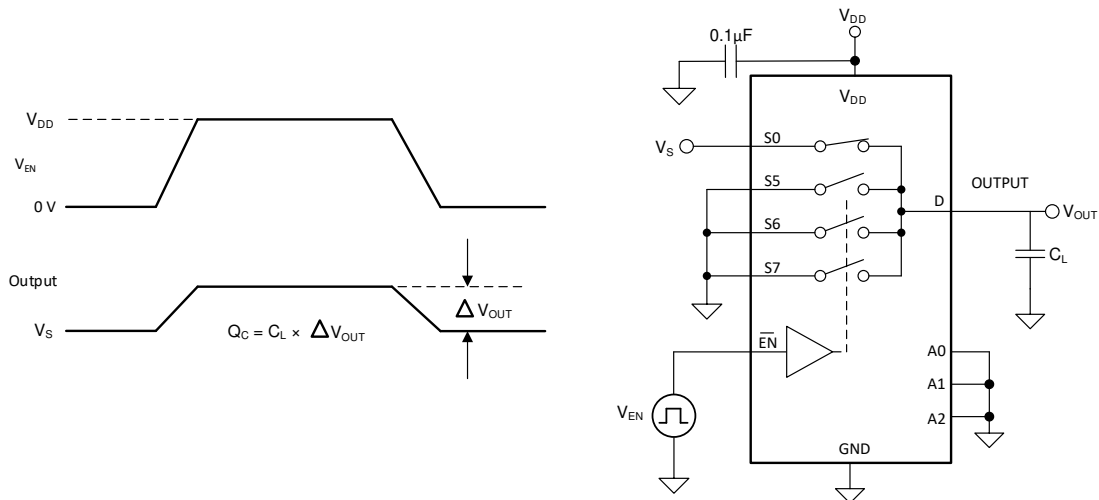

Figure 8-7. Charge-Injection Measurement Setup
The TMUX1308-Q1 and TMUX1309-Q1 device have a transmission-gate topology. Any mismatch in capacitance between the NMOS and PMOS transistors results in a charge injected into the drain or source during the falling or rising edge of the gate signal. The amount of charge injected into the source or drain of the device is known as charge injection, and is denoted by the symbol Q_C . Figure 8-7 shows the setup used to measure charge injection from source (S_x) to drain (D).